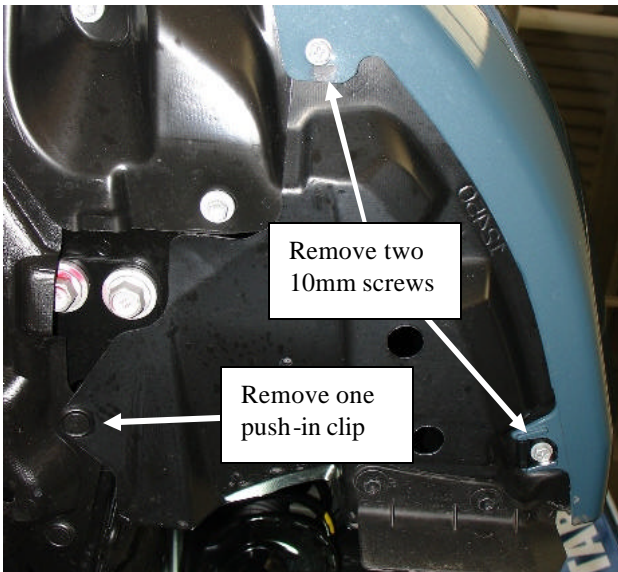

Fig. 3-10
- (d) Remove two 10mm screws. (Fig. 3-10)
- (e) Remove one push-in clip. (Fig. 3-10)